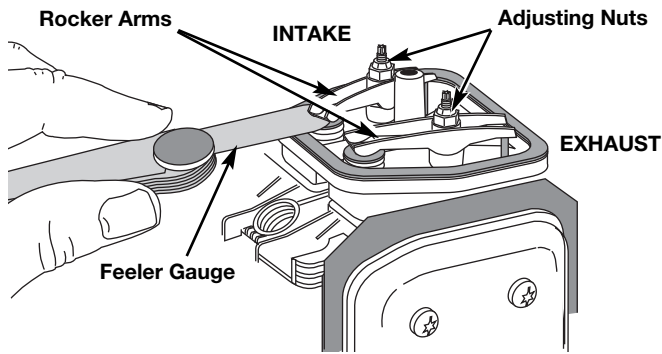

Fig. 34
9. Slide the feeler gauge between the rocker arm and the valve return spring. Measure the clearance between the valve stem and rocker arm (Fig. 34). Measure both the intake and exhaust valves.